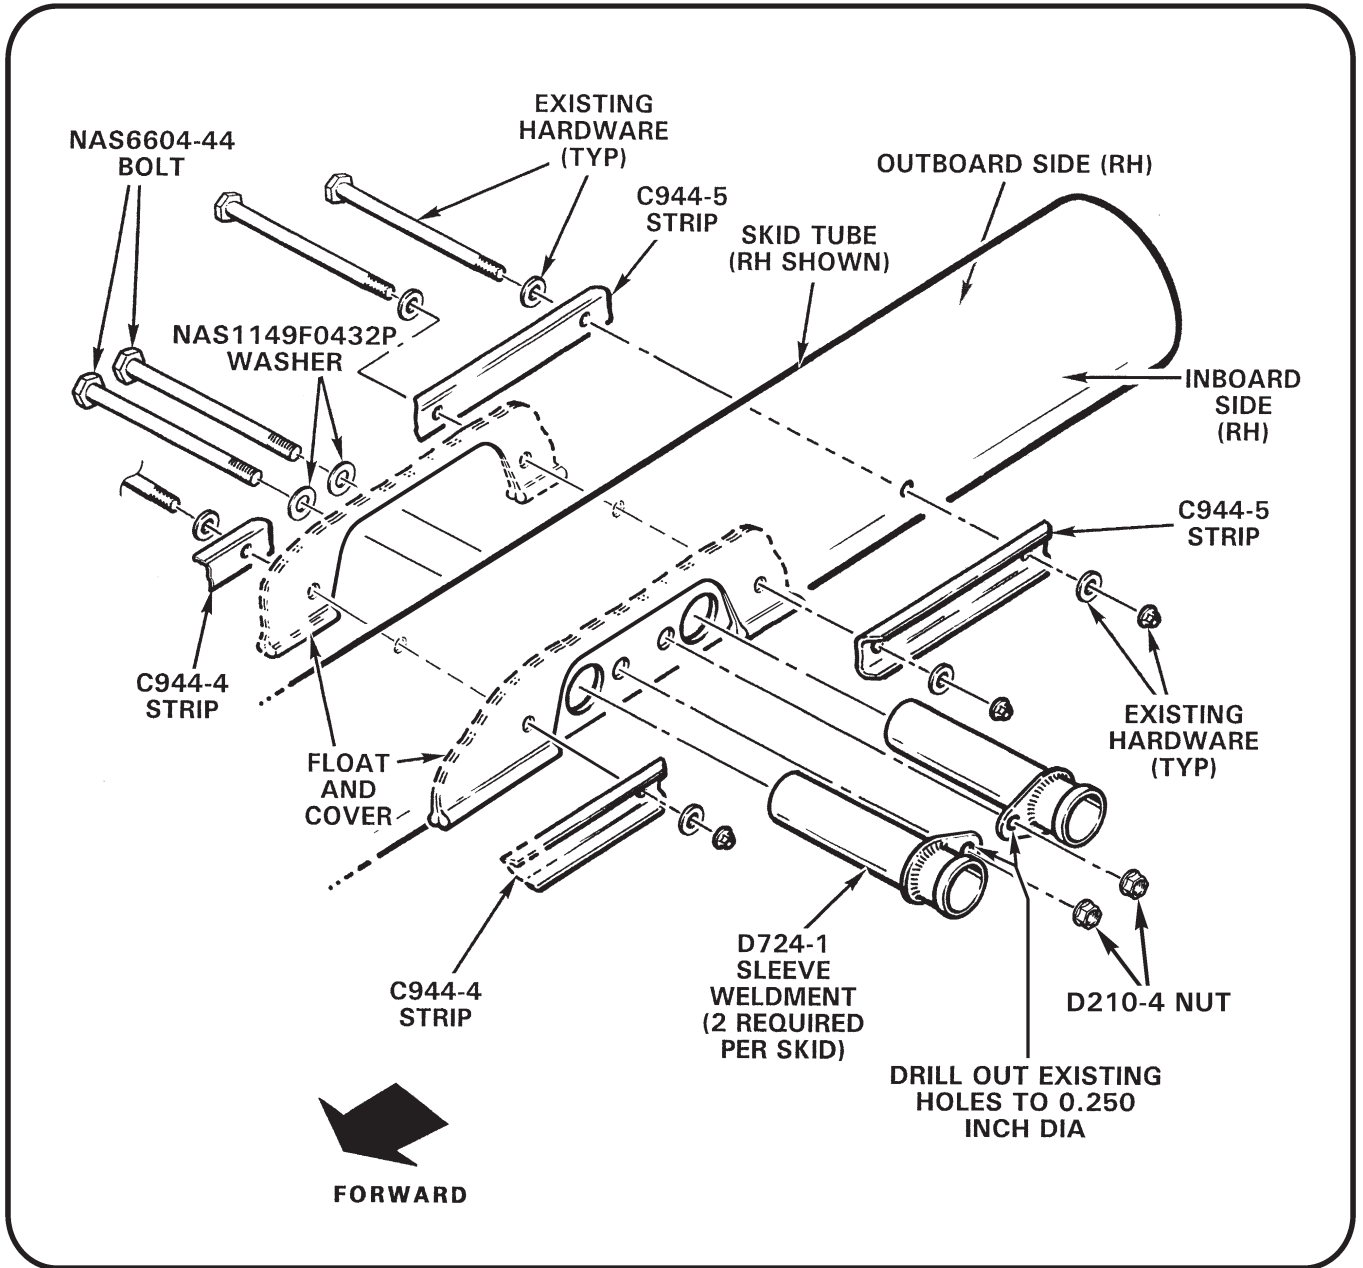

FIGURE 5
11. Refer to Figure 5. Enlarge mounting holes in D724-1 sleeve weldments to 0.250-inch diameter. Install sleeve weldments as shown using (2) NAS6604-44 bolts, (2) NAS1149F0432P washers, and D210-4 nuts. Torque to 35 in.-lb.
12. Re-attach float and float cover using C944-4 and C944-5 strips and existing hardware as shown in Figure 5. Torque bolts to 25 in.-lb.